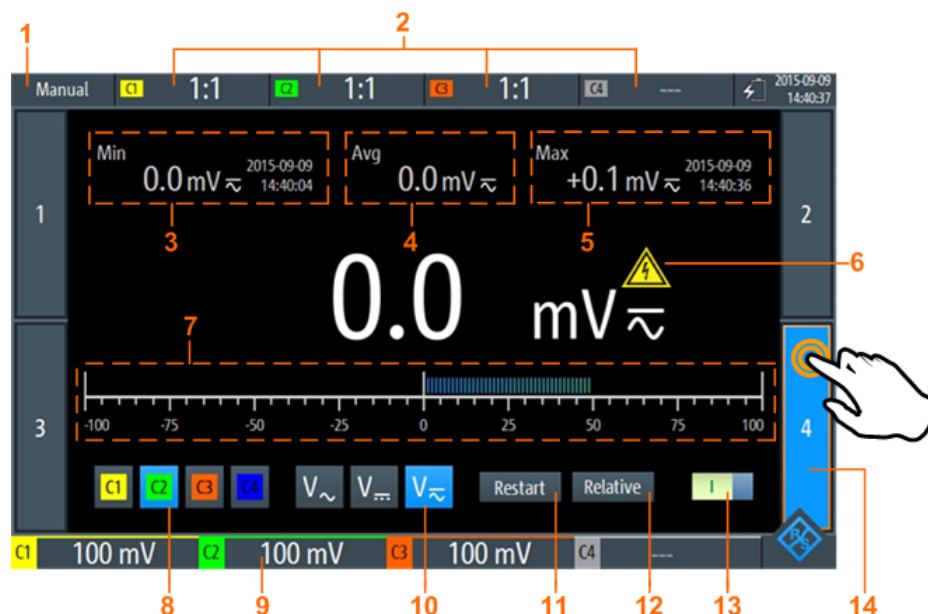

Figure 7-4: One-voltmeter-view
- Tap the highlighted number of the opened voltmeter as shown in Figure 7-4.
3. Select the channel to be measured (no. 8 in Figure 7-4).